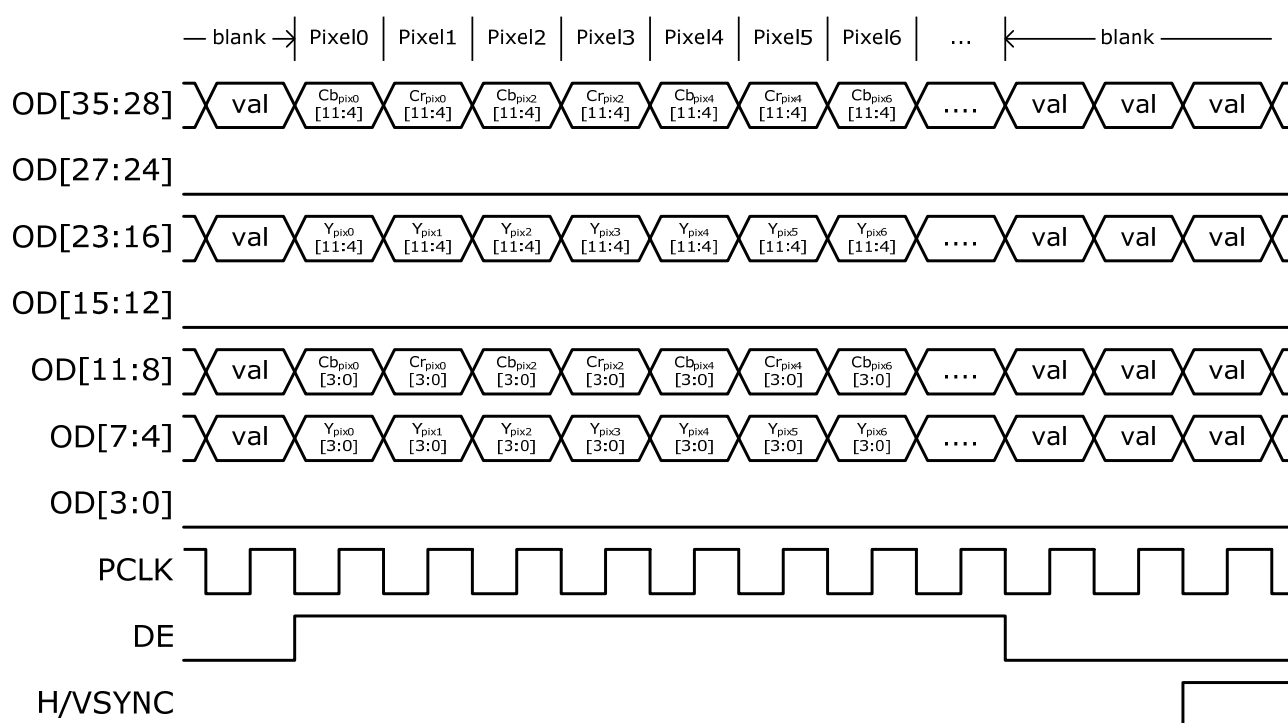
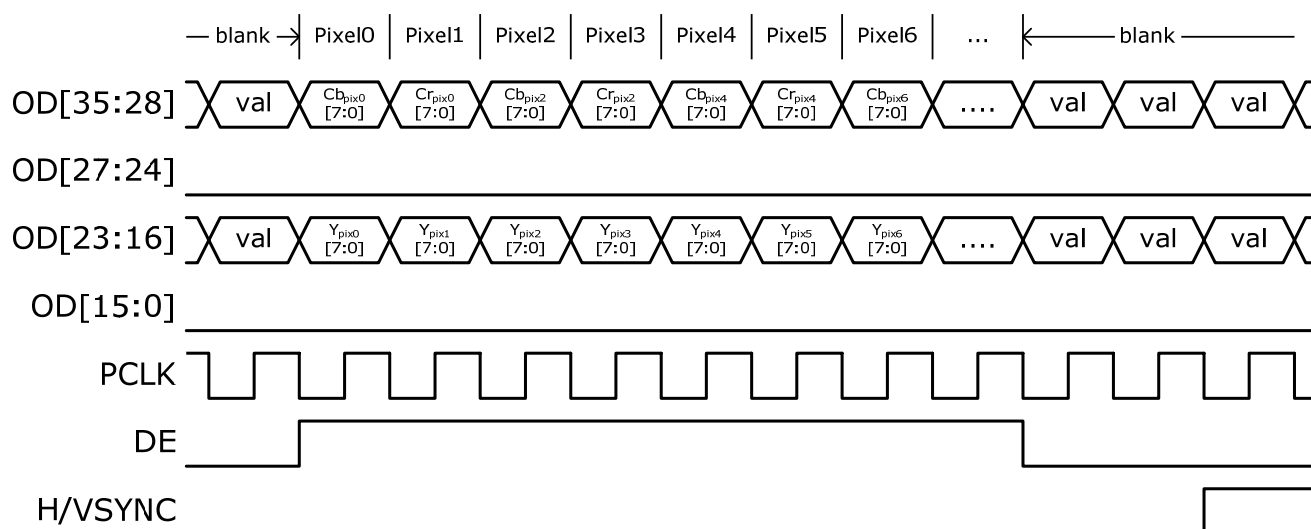

Figure 9. 24-bit YCbCr 4:2:2 with separate syncs
Figure 10. 16-bit YCbCr 4:2:2 with separate syncs
YCbCr 4:2:2 format does not have one complete pixel for every clock period. Luminance channel (Y) is given for every pixel, while the two chroma channels are given alternatively on every other clock period. The average bit amount of Y is twice that of Cb or Cr. Depending on the bus width, each component could take on different lengths. The DE period should contain an even number of clock periods. This format is only valid for single pixel mode. Figure 9 and Figure 10 give two timing examples.